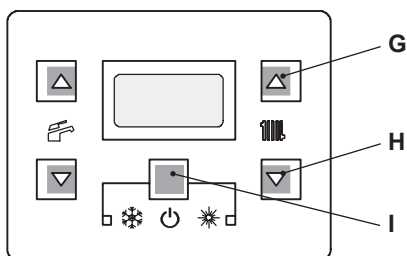
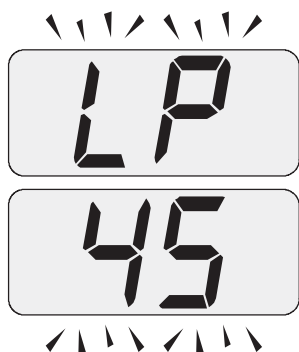
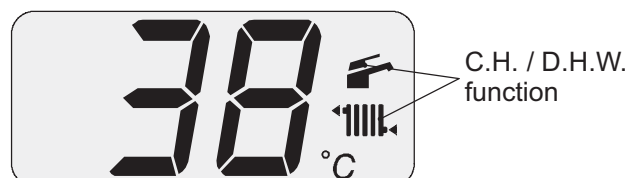

Figure 11.5
Figure 11.7
Figure 11.10
- 16 To enter in the parameters setting mode press sequentially and hold in the 3 keys ("G - H - I" Figure 11.5) for 10 second until the display shows Figure 11.6.
- 17 Press keys "G" and "H" (Figure 11.5) at the same time until the display shows the letters **LP** that alternate with the heating water temperature value (e.g. 45), indicating the activation of the "chimney sweep function" at minimum output (Figure 11.7).
- 24 Press keys "G - H - I" (Figure 11.5) at the same time again to exit the "chimney sweep mode" and return to the previously set boiler status (Figure 11.10);